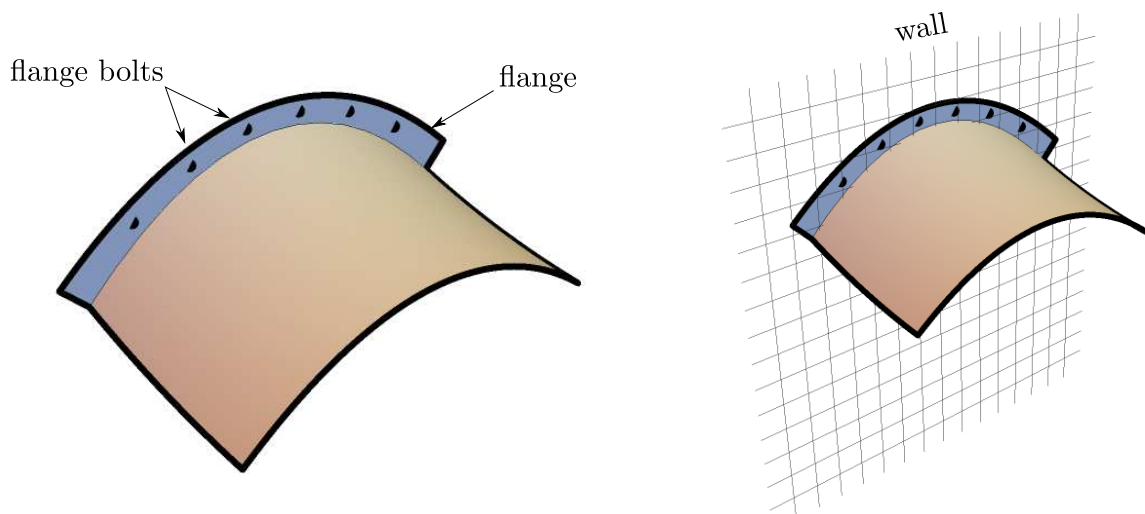

Figure 1: Rendering of an awning.
1. (Laplace’s awning) A designer/architect wants to have a stamped steel awning manufactured that resembles the illustration in Figure 1.